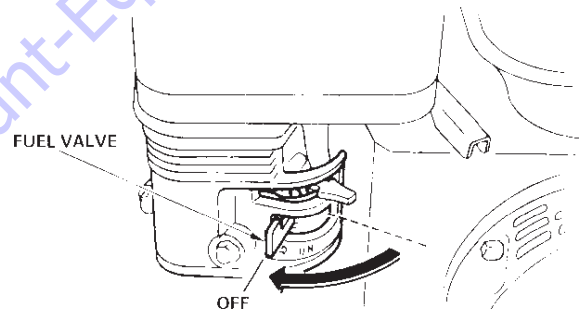

Figure 12. Fuel Valve Lever (OFF Position)
3. Close the **fuel shut-off valve** (Figure 12) by moving the fuel valve lever to the **OFF** position.